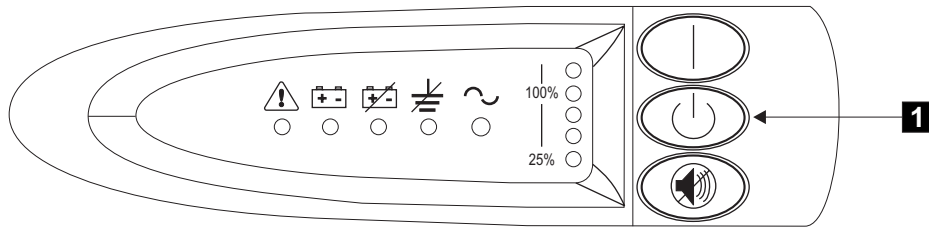

Figure 227. 2145 uninterruptible power supply front panel assembly
1. At the front of the 2145 UPS, press and hold the off button (**1** in Figure 227) for approximately five seconds or until the long beep stops.